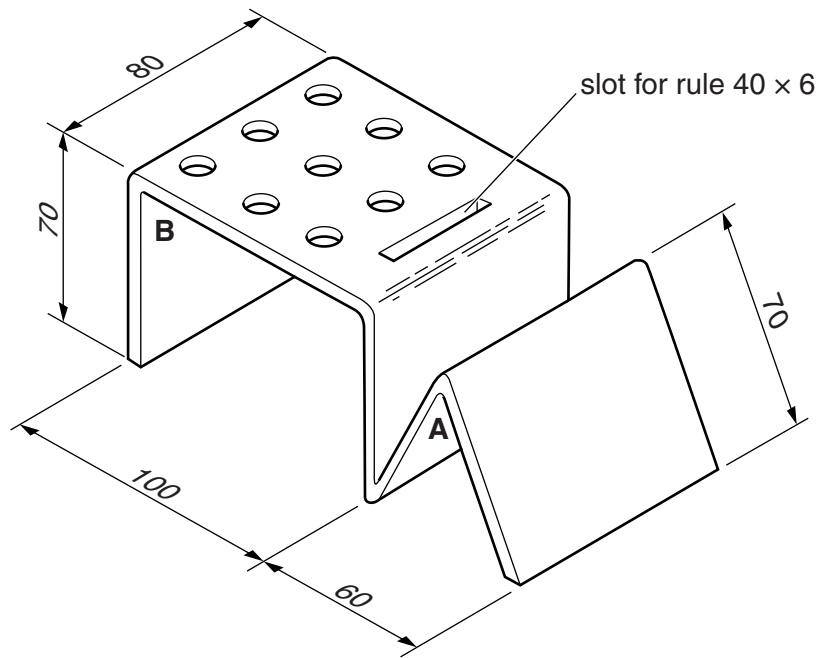

Fig. 9
12 Fig. 9 shows a desk tidy made from 4 mm thick acrylic.
(d) Use sketches and notes to show how the bend at **A** in Fig. 9 could be produced.
- (e) When the desk tidy shown in Fig. 9 is picked up and moved around, the pens, pencils and rule fall out.
- (f) The desk tidy shown in Fig. 9 could be made from 1 mm thick aluminium sheet.